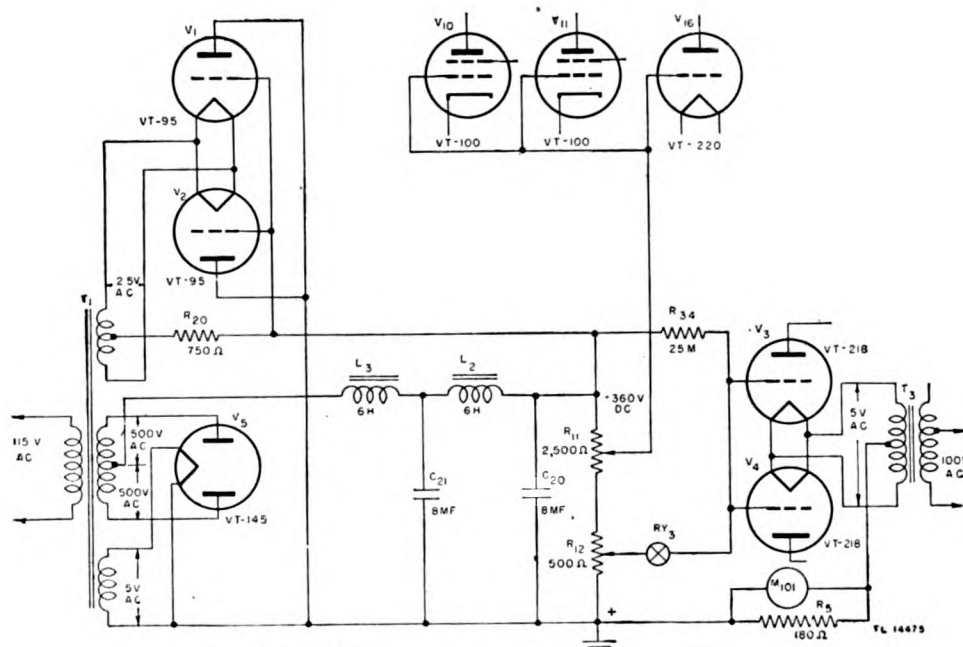

Figure 64. Bias power supply—functional diagram.
b. BIAS POWER SUPPLY (fig. 64). The bias power supply furnishes filament and plate voltage for tubes V_1 and V_2 , and bias voltage for tubes V_{10} , V_{11} , V_{16} , V_3 and V_4 . Transformer T_1 supplies filament and plate voltage to rectifier tube V_5 (Tube JAN-5Z3 (VT-145)) which is connected as a full-wave rectifier. The rectifier output voltage is applied to a choke input pi-section filter consisting of filter chokes L_2 and L_3 , and capacitors C_{20} and C_{21} . Resistor R_{11} and potentiometer R_{12} connected across the output of the power supply serve as bleeder resistors. The voltage regulation of this power supply is relatively good because of the use of a choke input filter and a high value of bleeder current. An adjustable tap is provided on resistor R_{11} for the purpose of adjusting the bias voltage to tubes V_{10} , V_{11} , and V_{16} to the correct value. Filament current for modulator tubes V_3 and V_4 is supplied by filament transformer T_3 . The function of all other parts shown in figure 64 has been described in other paragraphs.